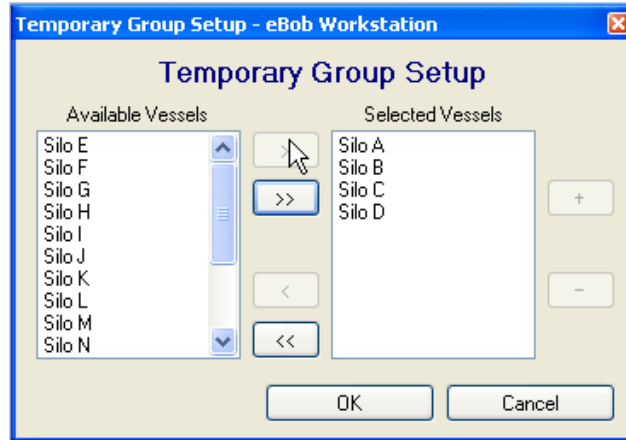

Figure 29
- **Available Vessel list** A list of all the vessel in the system that may be added to the Temporary Group (Figure 29).